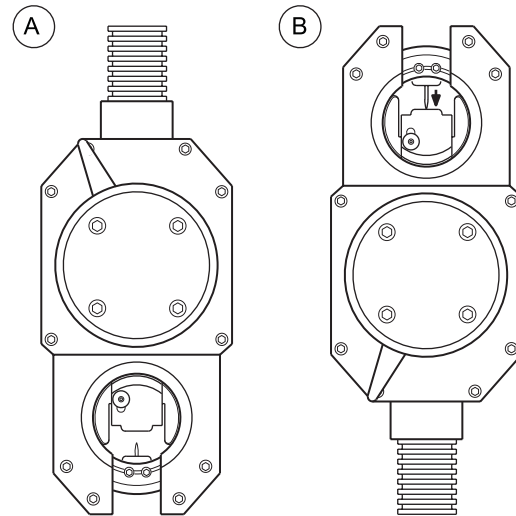

Figure 10 Setting the Arc Gap
2. Insert the arc gap gage into the rotor. See Figure 10(A).
3. Tilt the weld head upward. Loosen the electrode screws allowing the electrode to drop onto the gage surface. See Figure 10(B).